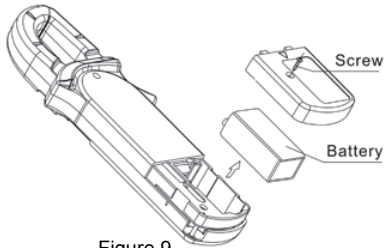

Figure 9
B. Replacing the Battery (See Figure 9)